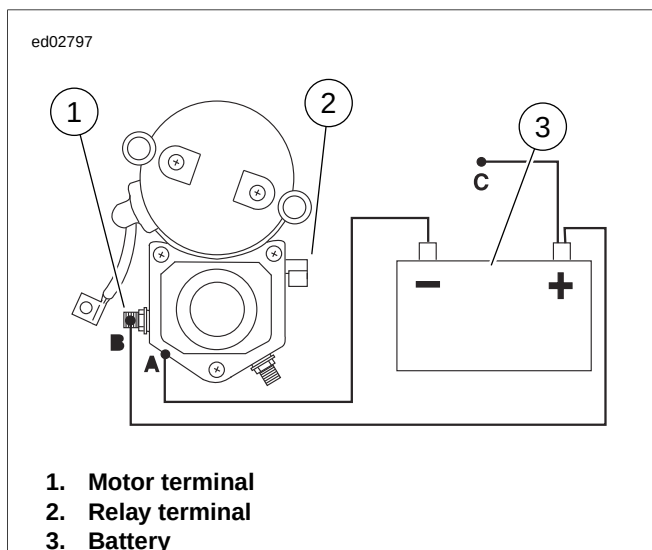

Figure 1-10. Return Test
1. See Figure 1-10. With test leads still connected in the manner specified at the end of the previous 1.6 TESTING STARTER ON BENCH. Solenoid Hold-In Test, disconnect solenoid relay terminal/positive battery post test lead at either end.